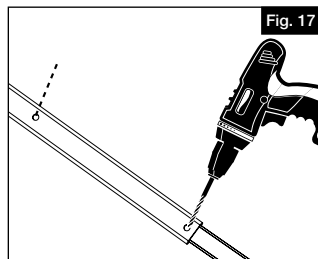

Fig. 17
- Pre-drill through the two provided brace holes with  $\frac{1}{8}$ " drill bit. Then, secure brace together at the measured length with provided #8 x  $\frac{3}{8}$ " blunt end screws (2) in the center of the brace (Fig. 17).